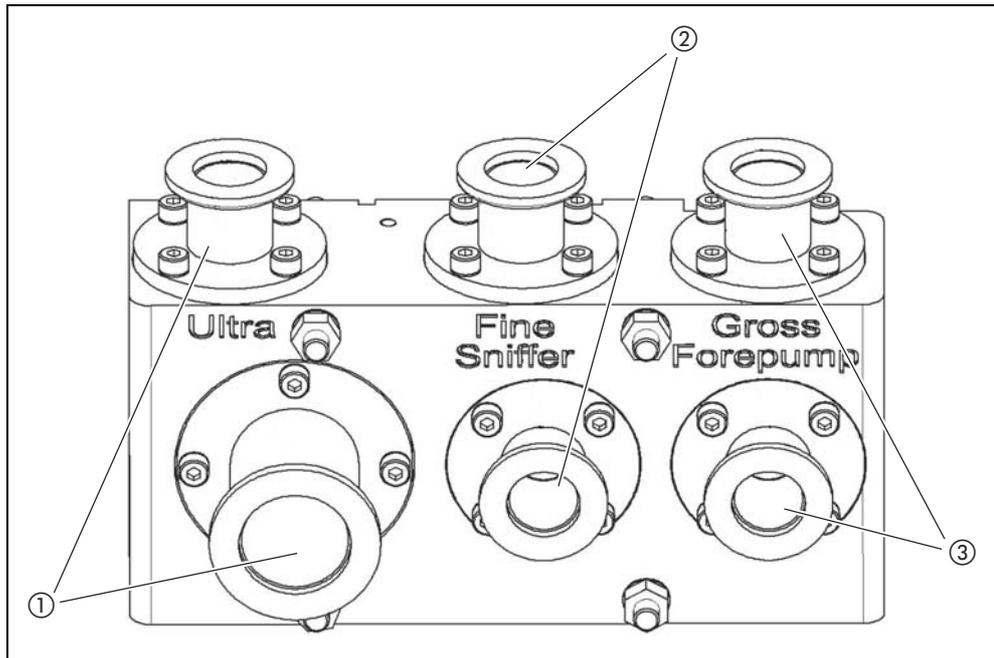

Fig. 2 Connection block
- a. Connection block. Connections for test system, backing pump, pressure sensor PSG500, internal calibration leak and sniffer line, see also Fig. 2.